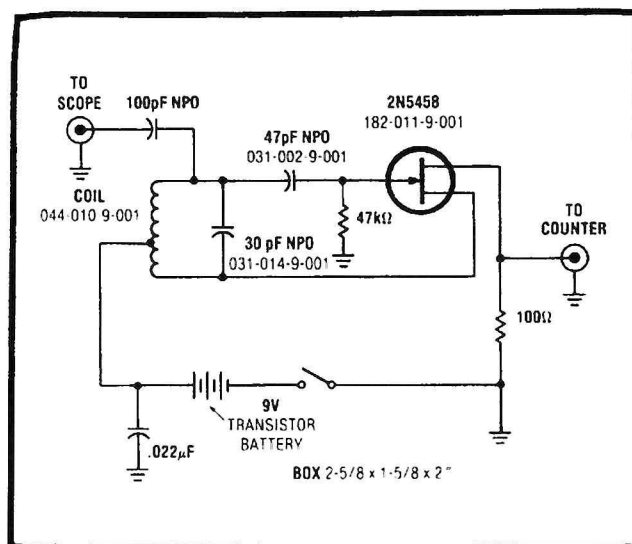
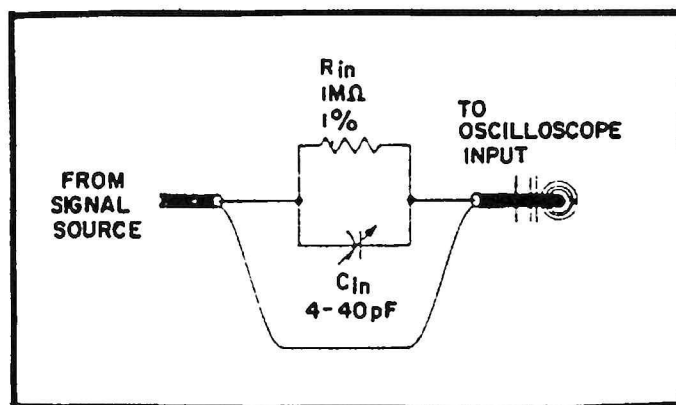

Fig. 18. Schematic of Test Oscillator for Input Capacitance Adjustment.
Fig. 19. Network for Alternate Input Capacitance Adjustment.
Fabricated RF Oscillator (Fig. 18).
The object of this procedure is to equalize the input capacitance for all sections of the vertical attenuator. This is accomplished by first using the non-adjustable capacitance of the input FETs on the non-attenuated range (5 mV/div) as reference, then trimming the input capacitor of each attenuator section to match. A measurement corresponding to the reference capacitance is established by connecting it as the tuning capacitor of a test oscillator (Fig. 18). This causes the test oscillator to operate at a reference frequency. The reference frequency is measured on a fre-
1. Build the test oscillator shown in Fig. 18 and connect it to the frequency counter and the CH A input of the oscilloscope as shown. No input signal is applied during this procedure
An alternate method of adjusting input capacitance, although not as accurate as the previous method, may be used if the test oscillator of Fig. 18 is not available. This method requires the simpler network shown in Fig. 19. This network is essentially a 2:1 probe, since the 1 M Ω resistance of the network and the 1 M Ω input resistance of the vertical attenuator form a voltage divider. A 10:1 probe could also be used, except that a square wave of at least 100 volts p-p (not commonly available) would be required for adjustment of the 5 V/div attenuator setting.
1. Connect the network of Fig. 19 between a square wave generator and the CH A INPUT of the oscilloscope.